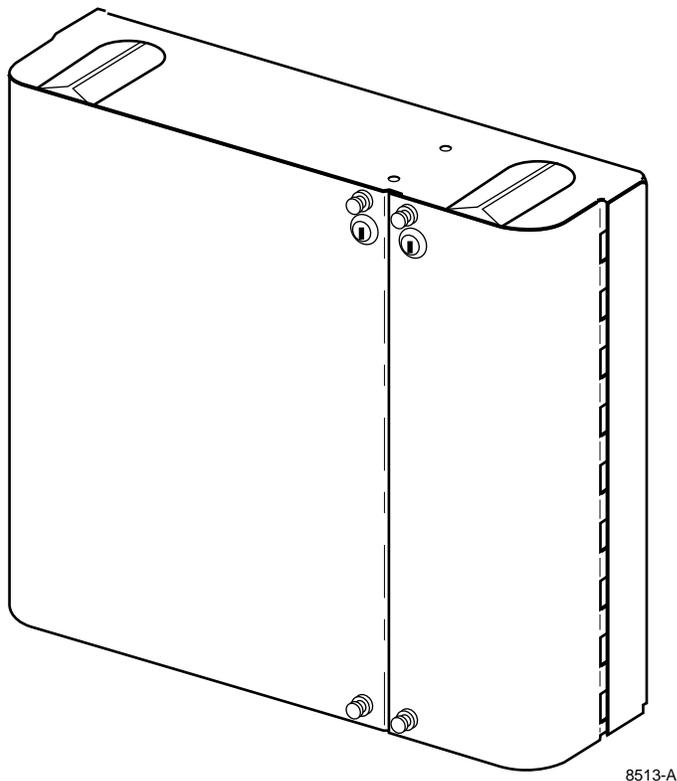

Figure 1. FTD1 36-Fiber Wall Box
1.01 This section provides functional, physical, and technical descriptions of the wall box. See Figure 1.
1.02 The FTD1 36-Fiber Wall Box (Figure 1) is designed to provide a wall-mounted, or rack-mounted, secure, fiber cable terminal for use in small to medium-sized fiber networks and customer premises applications. The wall box can accommodate up to four OSP cables and contains provisions for splicing and terminating 36 singlemode fiber circuits.
1. From inside the front cover, remove the lock nut that holds the key lock to the cover (see Figure 1).